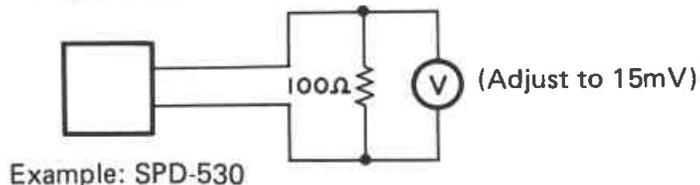

Fig. 15
① ~ ③ in the configuration indicated in Fig. 15.
- 2 When a photo diode (Fig. 15) is used . . . 15mV